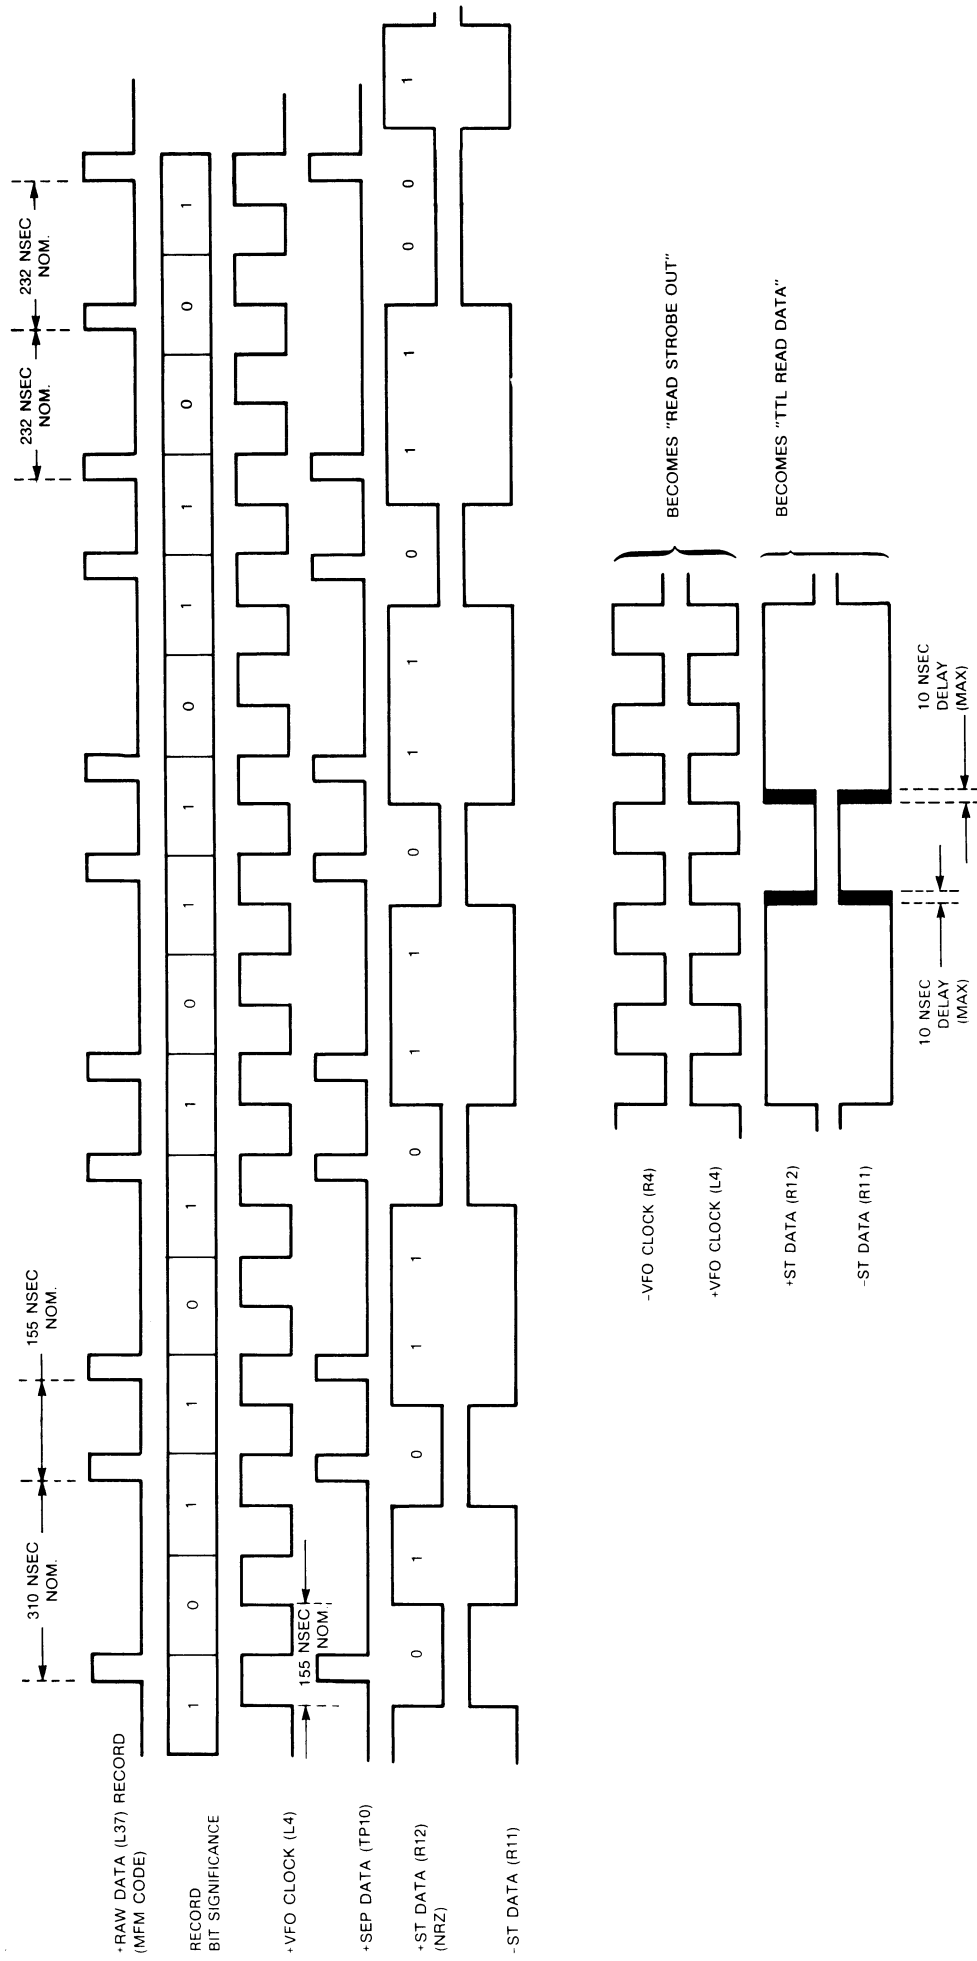

FIGURE 3-15. VFO OUTPUTS (D05)
- All output signals are ECL levels. VFO waveform is shown in Figure 3-15.